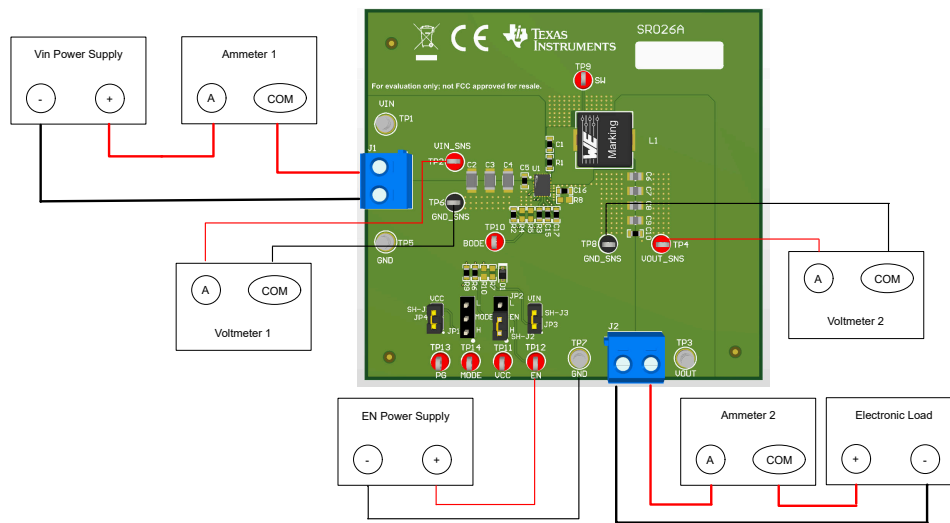

Figure 2-1. EVM Test Setup
Referencing the EVM connections described in Table 2-1, the recommended test setup to evaluate the TPS513885 is shown in Figure 2-1. Working at an ESD-protected workstation, make sure that any wrist straps, boot straps, or mats are connected and referencing the user to earth ground before handling the EVM.
1. Prior to connecting the DC input source, set the current limit of the input supply to 0.1A maximum. Make sure the input source is initially set to 0V and connected to the VIN_SNS and GND_SNS connection points as shown in Figure 2-1.
2. Connect EN DC source and set the current limit of the input supply to 0.1A maximum. Make sure the input source is initially set to 0V and connected to the EN and GND_SNS connection points as shown in Figure 2-1.